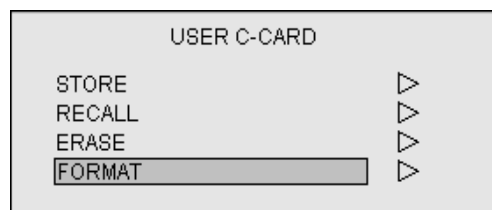

Figure 6.76 USER C-CARD MENU
- (1) Press the MENU key to open the Main menu.
- (2) Move the Joystick up or down to highlight USER C-CARD and press the Joystick to the right. The USER C-CARD menu will appear. (Figure 6.76)